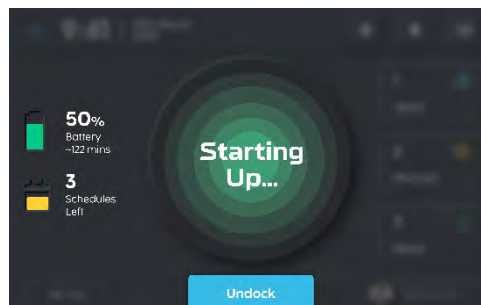

Fig. 14
6. Robot starts charging as shown in Fig 14.